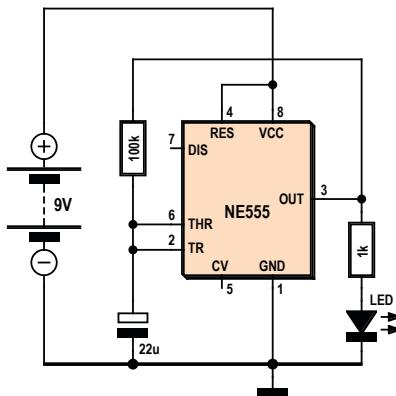

Figure 2. Blinker circuit with the NE555
**Figure 2** shows a simple square-wave generator in the form typically used as an LED blinker. The NE555 data sheet also shows several other basic circuits, including a monostable and a pulse-width modulator—all of which are typical tasks for microcontrollers. If you further consider the countless NE555 applications you can find somewhere on the